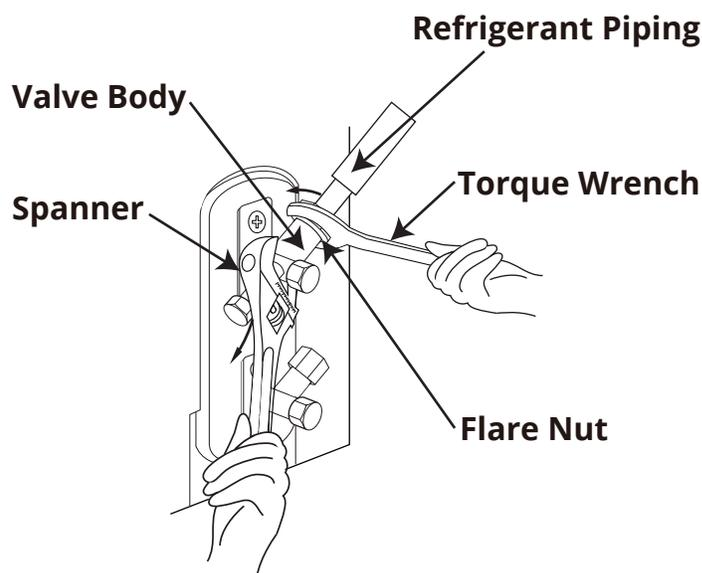

Fig. 7.10
4. Using a spanner, grip the main body of the valve. Do not grip the nut that seals the service valve. Refer to Fig. 7.10.
5. While firmly gripping the body of the valve with the spanner, use a torque wrench to tighten the flare nut (Refer to Fig. 7.10). Continue tightening the flare nut until the specified torque rating in the table on the previous page (based on pipe size) is achieved.
When tightening the flare nut, use the spanner to grip the main body of the valve. Refer to Fig. 7.10 below. Gripping in any other location could cause damage to the unit, as the torque from tightening the flare nut could cause other parts of the valve to break.